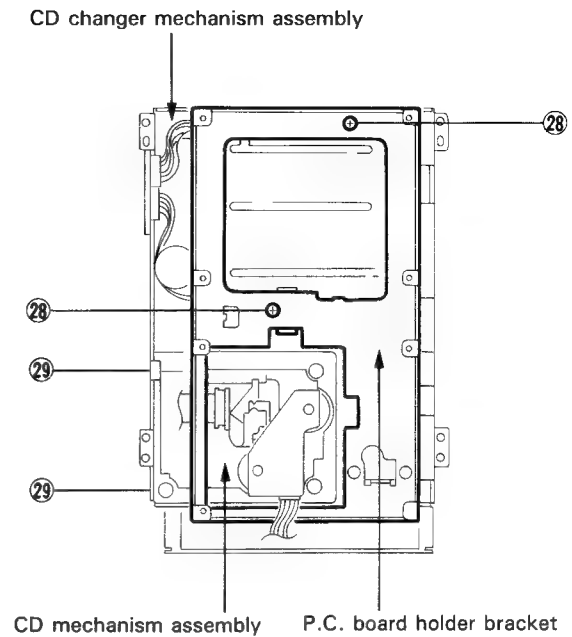

Fig. 7-26
(Refer to Fig. 7-26)
7. From the CD changer mechanism assembly, remove the two screws (28) retaining the P.C. board holder bracket (Refer to Fig. 7-26).
8. From the CD changer mechanism assembly, remove the two screws (29) retaining the CD mechanism (Refer to Fig. 7-26 and 7-27).